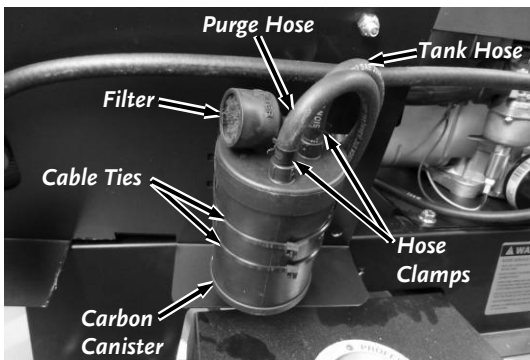

Figure 55
2. Position the Front Belt Cover so you have access to the Carbon Canister (**Figure 55**).